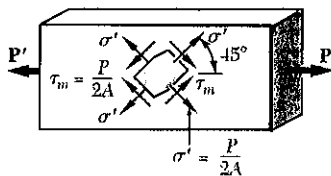

Fig 1.40 (b)
2.74 For a member under axial loading, express the normal strain ϵ' in a direction forming an angle of 45° with the axis of the load in terms of the axial strain ϵ_x by (a) comparing the hypotenuses of the triangles shown in Fig. 2.54, which represent respectively an element before and after deformation, (b) using the values of the corresponding stresses σ' and σ_x shown in Fig. 1.40, and the generalized Hooke's law.